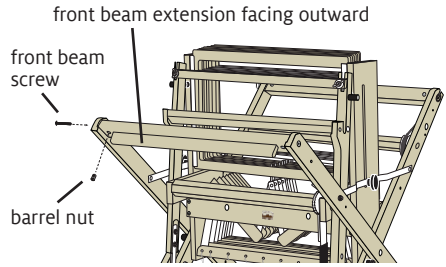

FIGURE 3: REATTACHING THE FRONT BEAM
- Reattach the front beam: Orient the front beam so that its extension faces outward, as shown in Figure 3 on page 4. Install the front beam in this position with its screws and barrel nuts.